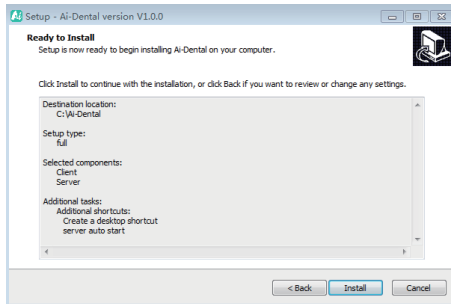

Figure 7
f) Click the “Install” button to start the installation, as shown in Figure 7: